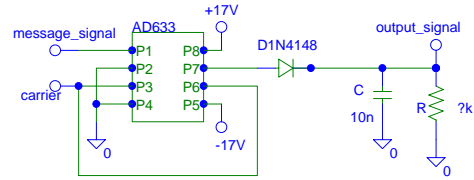

Fig. 2 Envelope detection of AM signals.
Since the envelope of the modulated signal has the shape of the message signal (as long as $|x(t)| < 1$ and has no DC component), the received signal can be rectified by a diode and the rectified signal can then be smoothed by an RC network in order to recover the message signal. Fig. 2 shows the *envelope detector* circuit for AM demodulation. The requirements for best operation of this demodulator are that $f_c \gg f_x$, and that the discharge time constant RC is adjusted such that the negative rate of the envelope never exceeds the exponential discharge rate of the RC network. For the specific case of tone modulation (the message signal is a sinusoid), the time constant RC is related to the parameters of the AM signal by
- Using Eq.(12), (a) calculate the range of values of R when $C = 10$ nF, $m = 0.5$, $f_x = 1$ kHz [2]. (b) Use a value of $R = 18$ k Ω to simulate the output of the envelope detector of Fig. 2 from 0 to $TS = 2$ ms. The parameters for the message signal are: Sine wave, $A_x = 5$ V, $f_x = 1$ kHz, and for the carrier signal: Sine wave, $A_c = 5$ V, $f_c = 98$ kHz [4]. (c) Repeat part (b) changing $TS = 10$ ms (this time-domain plot is *not* required), and from the `Trace` menu select `Fourier`, then from the `Plot` menu select `Axis settings...` and set the `Data range` from 0Hz to 100KHz in the `X-Axis` and set the `Scale` to `Log` in the `Y-Axis`. The resulting plot is the spectrum of the output of the envelope detector, include this plot in your prelab [4].
1. Assemble the circuit of Fig. 2 using a value of $R = 18 \text{ k}\Omega$. Use FG1 as the message signal and FG2 as the carrier signal. Set the following parameters in FG1: Amplitude=5 V, Frequency=1 kHz, sine wave. For FG2: Amplitude=5 V, Frequency=98 kHz, sine wave. Use the channel 1 probe of the oscilloscope to observe the output signal.